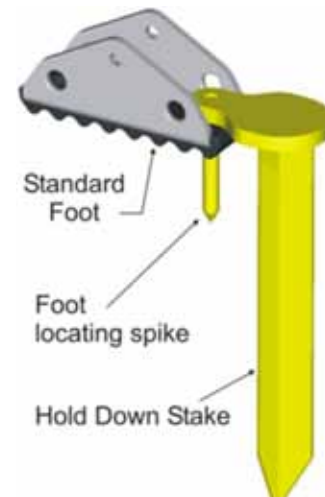

Fig 12
HOLD DOWN STAKE INSPECTION (Fig 12)
2. Ensure the Foot Locating Spike feeds easily through Standard Foot hole as illustrated in Fig 12.